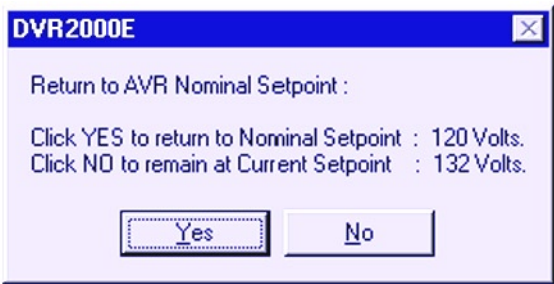

Figure 5-14. Message Box - Return to AVR Nominal Setpoint
*Voltage Step Response - AVR Setpoint (V) (Nominal).* This read-only field indicates the AVR setpoint. (The AVR setpoint is set by using the Setpoint tab of the Setting Adjustments screen). The voltage displayed in the AVR Setpoint field is selected by clicking the adjacent button. Clicking this button sends the AVR Setpoint value to the DVR2000E and changes the color of the button from gray to red.
*Voltage Step Response - Increment of AVR Setpoint (V).* These two fields indicate the increase that occurs to the AVR setpoint when the corresponding Increment button is clicked. The “% increase” field is used to set and indicate the percentage that the AVR setpoint is increased when the Increment button is clicked. The “AVR Setpoint =” field indicates the value of voltage that corresponds to the “% increase” field. Any setpoint value within range and higher than setpoint value be can also be typed into the “AVR Setpoint =” field which updates the “% increase” field also. The AVR setpoint changes to this value when the adjacent button is clicked. When clicked, the Increment button changes from gray to red to indicate that the AVR setpoint has increased to the value in the “AVR Setpoint =” field.
*Voltage Step Response - Decrement of AVR Setpoint (V).* These two fields indicate the change that will occur to the AVR setpoint when the corresponding Decrement button is clicked. The “% decrease” field is used to set and indicate the percentage that the AVR setpoint is decreased when the Decrement button is clicked. The “AVR Setpoint =” field indicates the value of voltage that corresponds to the “% decrease” field. Any setpoint value within range and lower than setpoint value can also be typed into the “AVR Setpoint =” field which updates the “% decrease” field also. The AVR setpoint changes to this value when the adjacent button is clicked. When clicked, the Decrement button changes from gray to red to indicate that the AVR setpoint has decreased to the value in the “AVR Setpoint =” field.
The setpoint value currently set in the unit by any of the above methods is displayed in the current setpoint textbox. To return to the nominal setting the button adjacent to AVR Setpoint (V) (Nominal) should be pressed. If the AVR analysis screen is left without returning to nominal setpoint, a message box (Figure 5-14) is shown which allows the user to return to nominal setpoint by pressing YES or remain at the current setpoint by pressing NO.